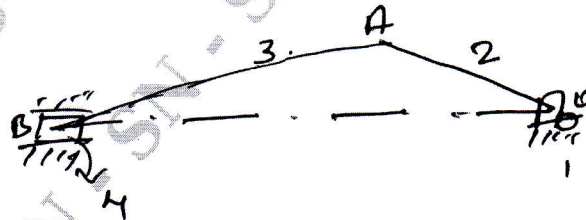

Fig.Q.4
- 4 In a slider crank mechanism shown in Fig.Q.4. Crank OA = 300mm and connecting rod AB = 1200mm. Crank OA is turned 30° from IDC. Locate all the instantaneous centers. If the crank rotates at 15rad/sec. Clockwise find: i) Velocity of slider B ii) Angular velocity of connecting rod AB. (20 Marks)